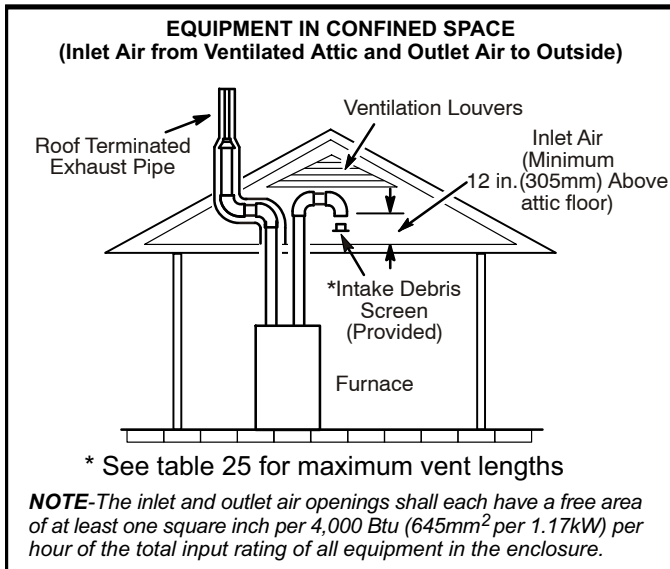
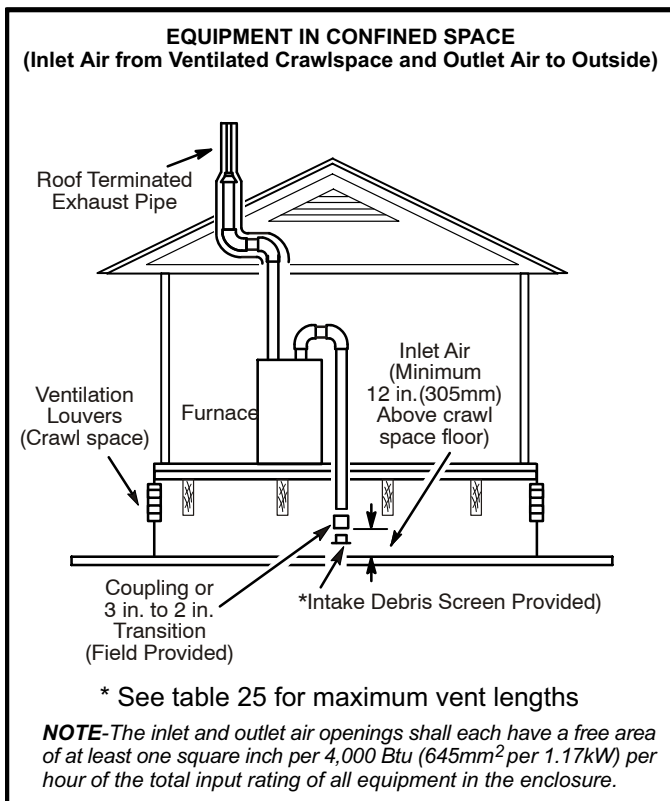

FIGURE 26
FIGURE 27
- 2 - If intake air is drawn from a ventilated attic (figure 26) or ventilated crawlspace (figure 27) the exhaust vent length must not exceed those listed in table 25. If 3" diameter pipe is used, reduce to 2" diameter pipe at the termination point to accommodate the debris screen.